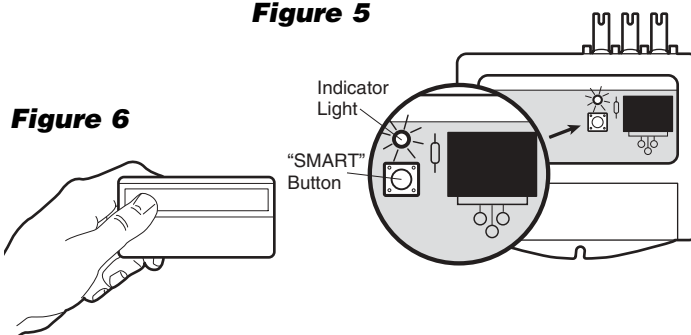

Figure 6
3. Within 30 seconds, press and hold the button on the hand-held remote that you wish to operate your garage door opener (*Figure 6*).